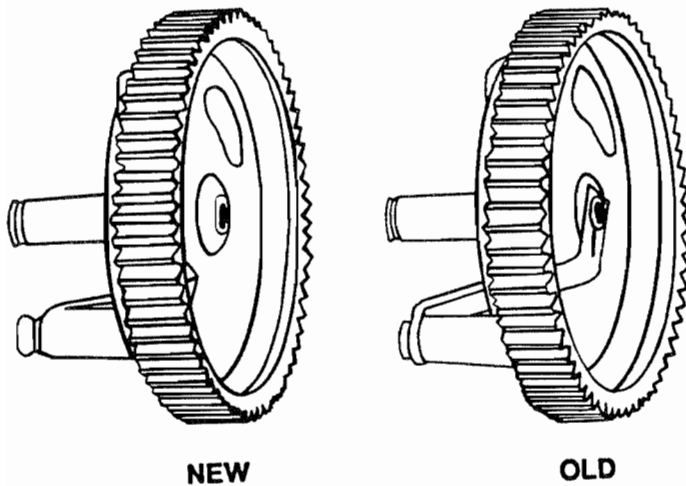

Figure 701. Old and New Distributor Gears
- A. Determine if gear is of old or new design. The new gear has a narrow stainless steel strap connected to the electrode in place of a wide copper strap. (See Figure 701.) If gear is of old design, discard gear and replace with new type.
- B. If distributor gear (25) is of new design, inspect gear for excessive wear or damage. If gear teeth, axle or electrode are excessively worn or damaged, or there is any evidence of looseness between axle and gear or strap and gear, gear shall be replaced. If electrode surface is slightly carbonized, smooth off with a fine file.
- C. Wipe gear (25) free of all oil film and other contaminants.